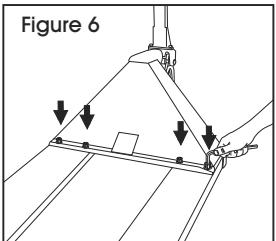

Figure 6
4. Tighten the screws on each fork of the truck. (See Figure 6)